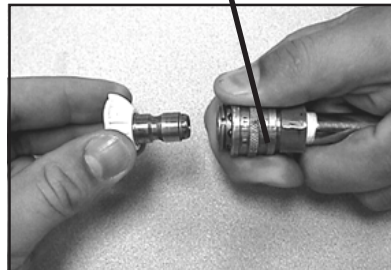

Figure 11
3. Pull quick connect coupler back and remove nozzle-Figure 11.